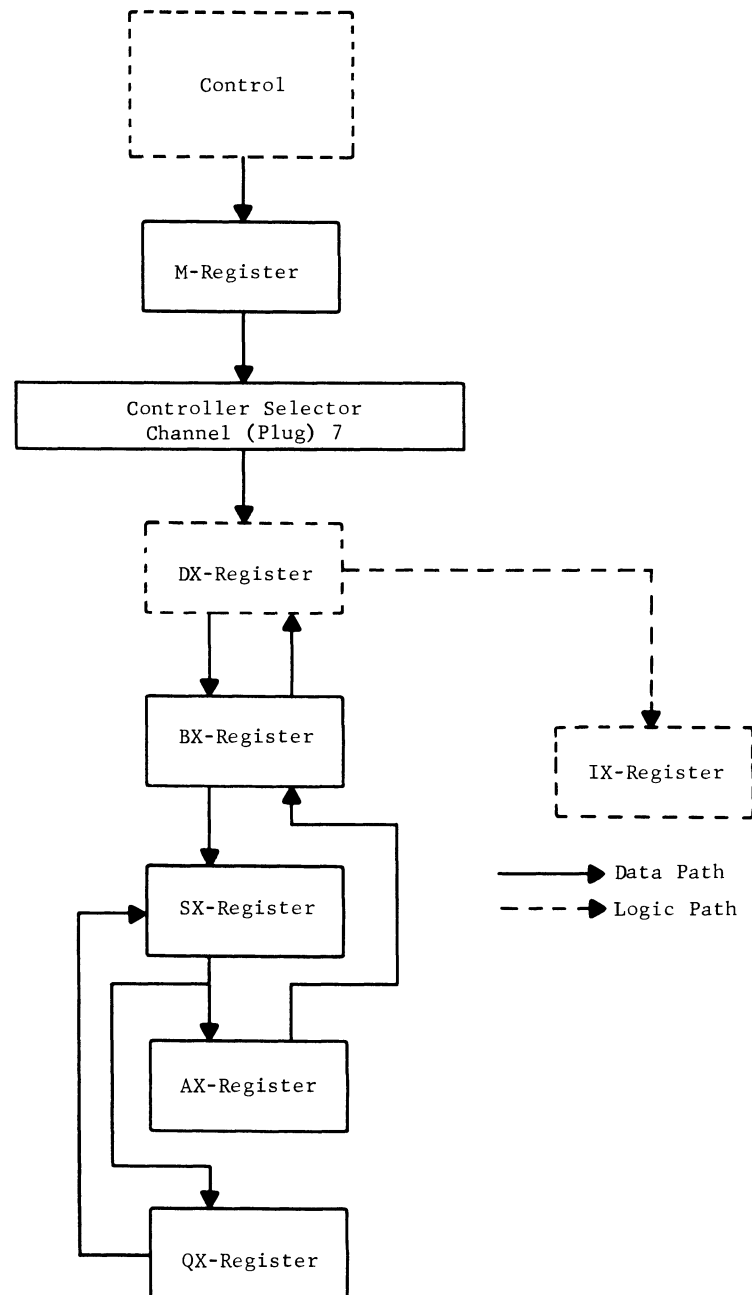

Figure 1. Major Registers and Functional Logic Diagram
The AX-, BX-, QX-, and IX-registers and the adder (SX) perform functions similar to those performed by their counterpart registers (A, B, Q, and I) in the central processor. Figure 1 is a block diagram showing the data and control timing paths for the functional logic and the major registers of the AAU.